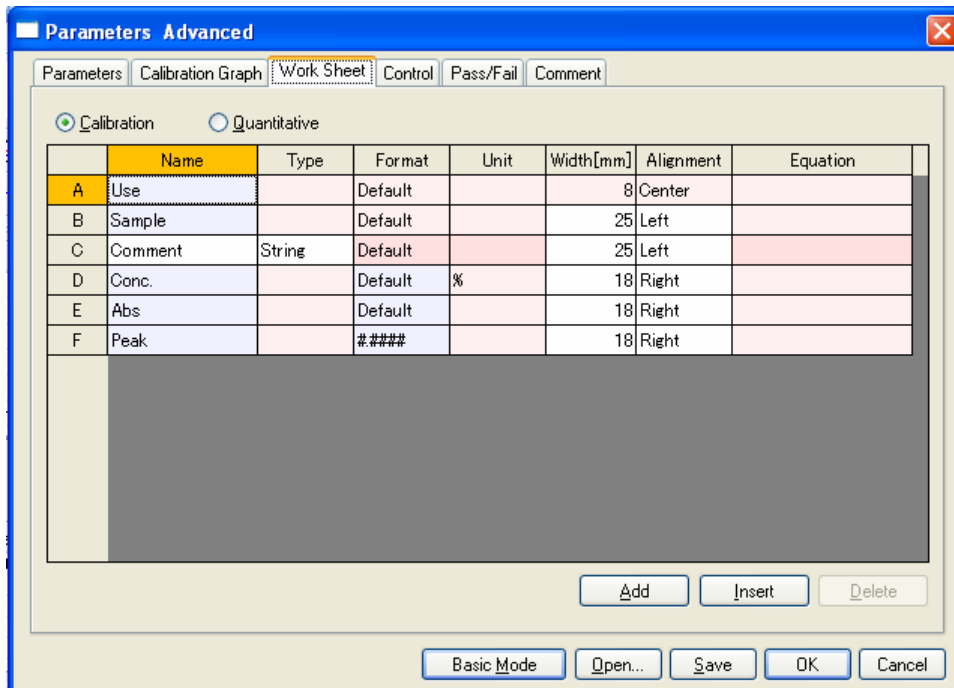
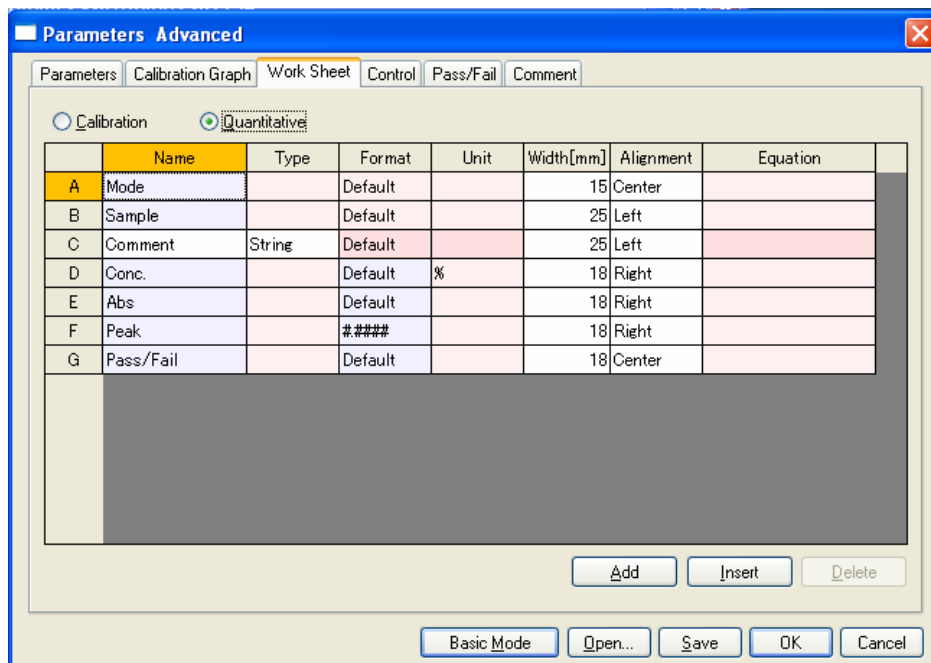

Figure 5.12 [Parameters Advanced] Dialog, [Work Sheet] tab (Calibration)
Figure 5.13 [Parameters Advanced] Dialog, [Word Sheet] tab (Quantitative)
- (3) Click the [Worksheet] tab. The worksheet used by the Quantitative Calibration program and the Quantitative Analysis program is created in the [Work Sheet] window. Widen the width of the [Parameters Advanced] dialog to display the entire [Work Sheet] window as shown in Fig. 5.12.
Select [Calibration] to show the window shown in Fig. 5.12. Select [Quantitative] to show the window shown in Fig. 5.13. The [Default] worksheet is set and used here, so there is no need to edit this item.